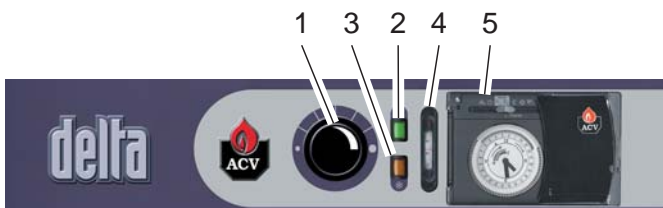

Fig. 23: Control panel
7.1.1 LEARNING YOUR WAY AROUND THE CONTROL PANEL (Fig. 23)
(item marked 2, Fig. 23)
1 - Thermostat adjustable between 60 and 90° C (item marked 1, Fig. 23)
2 - ON/OFF switch (item marked 2, Fig. 23)
3 - Summer/Winter selector switch (item marked 3, Fig. 23)
4 - Thermometer (item marked 4, Fig. 23)
5 - Controller (item marked 5, Fig. 23)